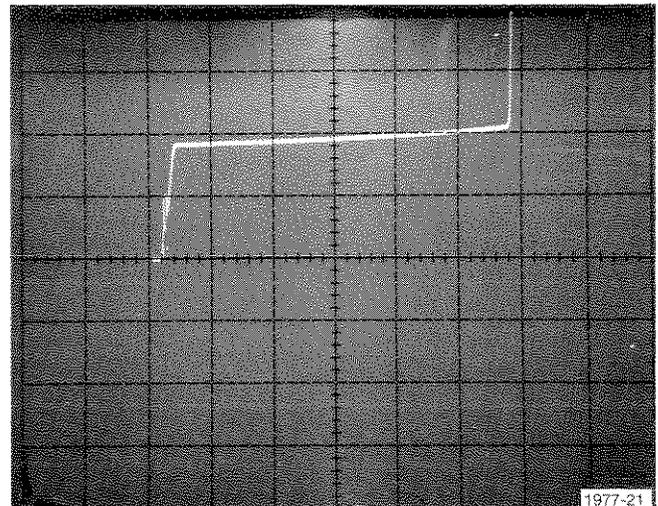

Fig. C-3. + Input bias current display.
b. Check that the vertical display is ≤ 3.75 divisions from graticule center ($= 75$ nA, see Fig. C-3). Change the VERT UNITS/DIV switch setting if better resolution is needed.